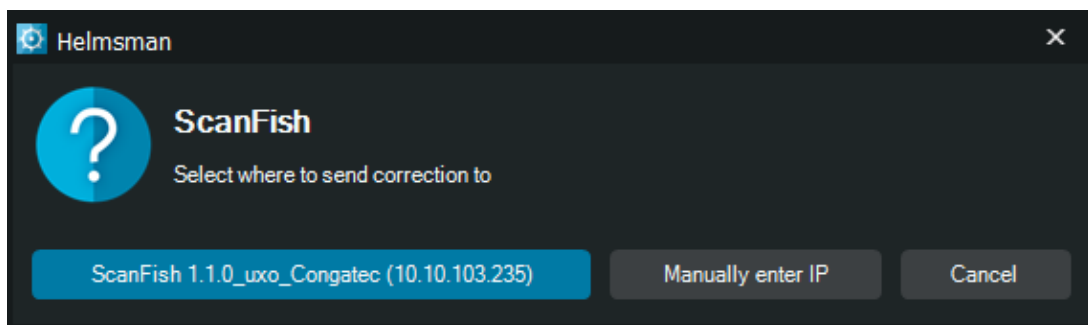

Figure 4 Helmsman view for setting up where to send correction to
- If the NaviPac computer is on the same network as the ScanFish, a connection will automatically be established between NaviPac and the ScanFish, as displayed on the button next to **Target ScanFish**. If the connection is not automatically established, the button will show **<None>**. When the button is clicked, the view in Figure 4 will appear.